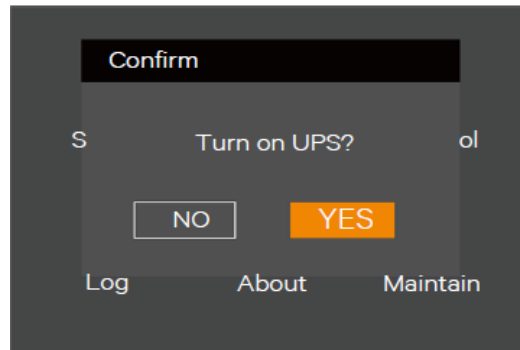

Figure 2-7 Turning on UPS
2. Press the power button for two seconds, the LCD prompts a dialogue box shown in Figure 2-7.